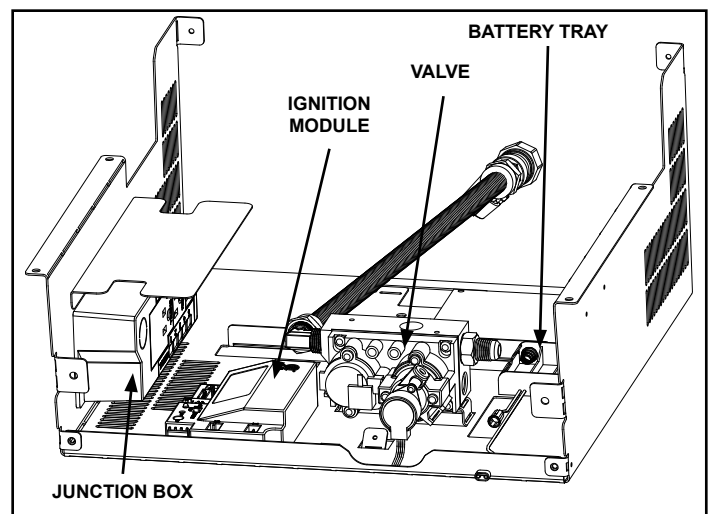

Figure 3.7
The IntelliFire™ Plus intermittent pilot ignition system comes with a battery backup system that enables the system to operate in a power outage. The system offers seamless transition from household AC power to battery backup. A factory-installed battery pack is located in the control cavity of the appliance. See Figure 3.7. Battery longevity and performance will be affected by long term exposure to the service temperatures of this appliance.
2. Locate the battery tray and insert four AA cell batteries. Battery polarity must be correct or module damage will occur. See Figure 3.7. A complete wiring diagram is included in the Electrical section of the appliance Installation Manual.
- Locate the ignition module in the control cavity. See figure 3.7